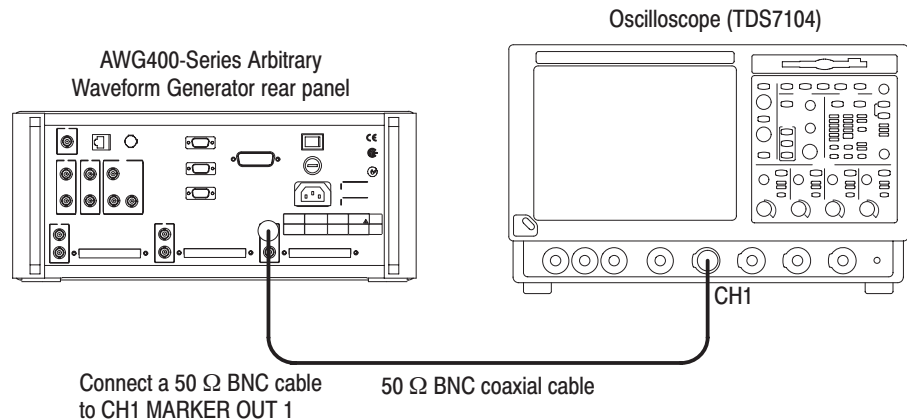

Figure 4-40: Marker output initial test hookup
- a. Use a BNC coaxial cable to connect the AWG400-Series CH1 MARKER OUT 1 connector to the oscilloscope CH1 input connector (see Figure 4-40).